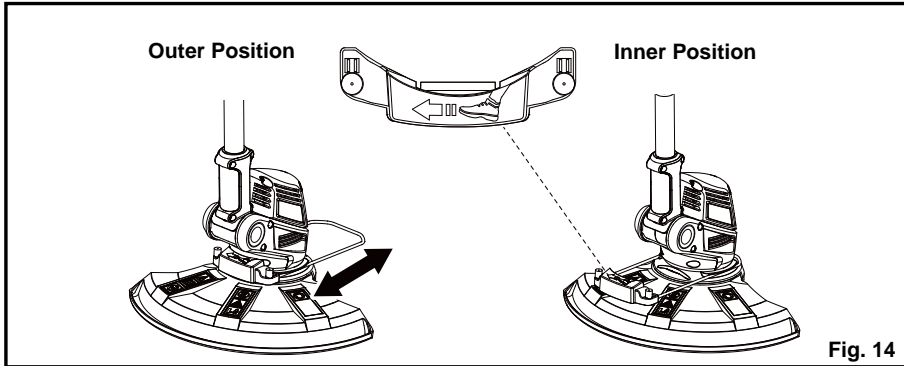

Fig. 14
1. Push the flower guard to its outer position for operation until it snaps into place (Fig. 14).
2. Push the flower guard to its inner position after operation and when storing (Fig. 14).